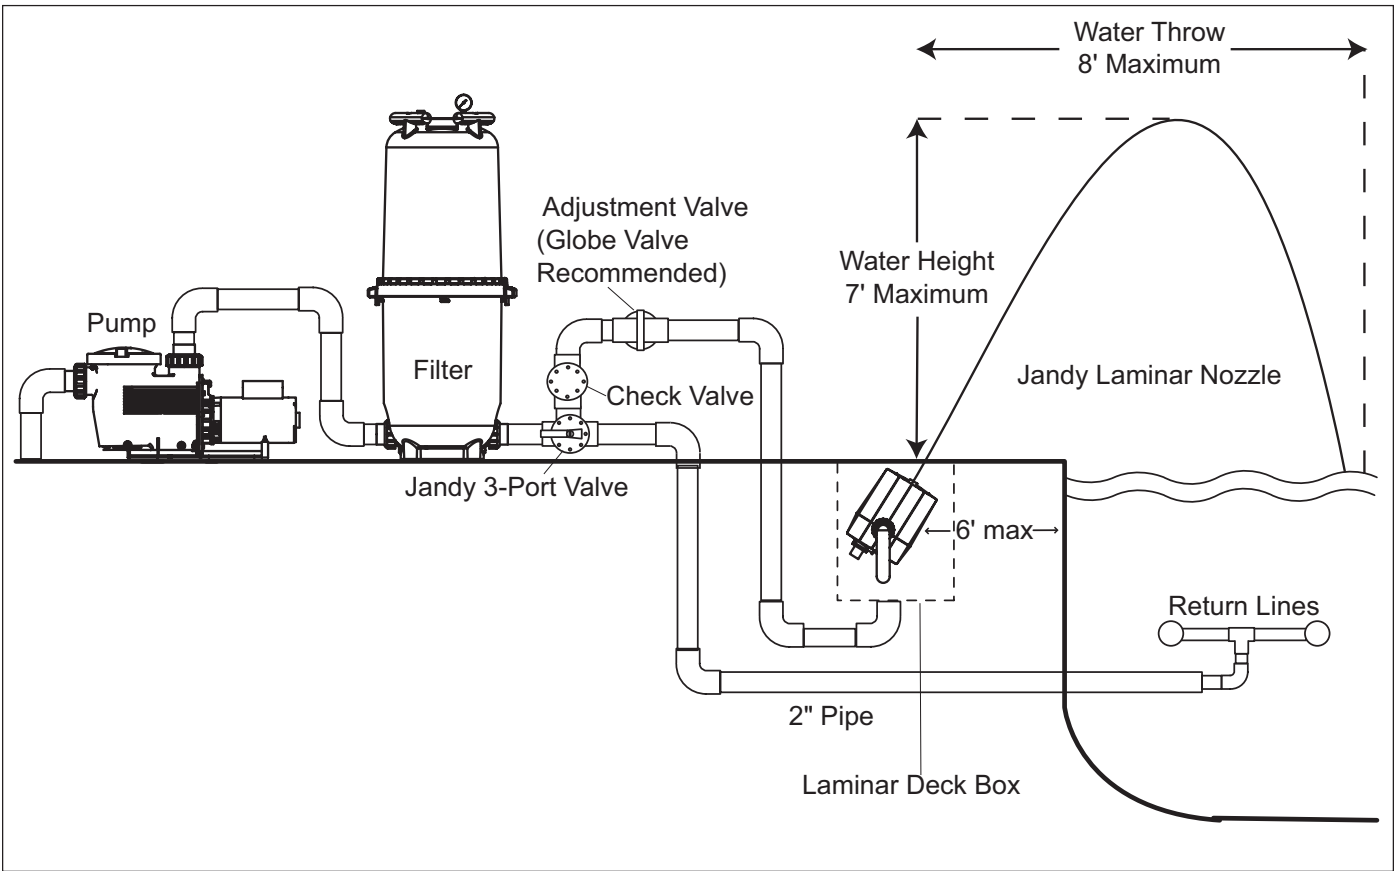

Figure 1. Plumbing Schematic for Laminar Jet with Deck Box
**2.1.e** Plumb the incoming, filtered water supply to the one inch (1") hub located on the bottom of the Deck Box marked **Inlet** (see Figure 5). The filtered water supply must include an adjustment valve and check valve (see Figures 1 and 2).
**2.2.e** Plumb the incoming filtered water supply to the one inch (1") hub located on the bottom of the Deck Box marked **Inlet** (see Figure 4). The filtered water supply must include an adjustment valve and check valve (see Figures 1 and 2).